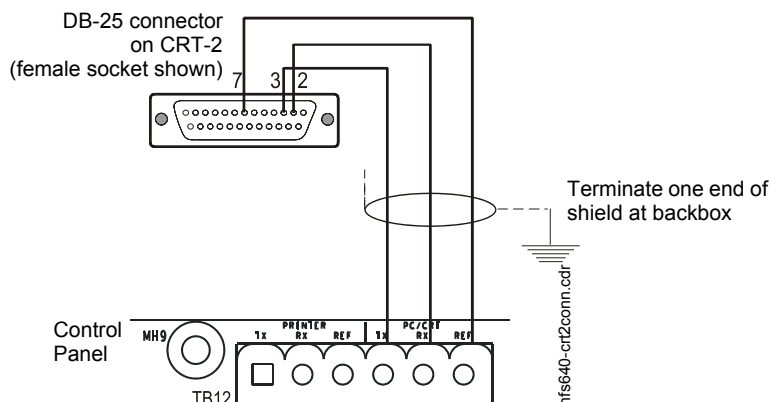

Figure 3.16 Connecting a CRT-2
1. Connect the three (3) open leads of the custom cable to the TB12 terminal block on the control panel as shown in Figure 3.16.